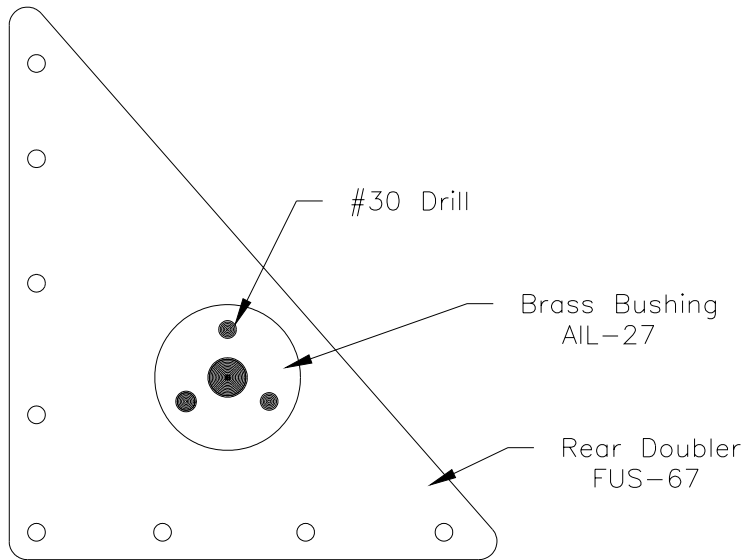

Figure 20.5.16
26) Center a brass bushing (AIL-27) in the 1/4" hole on the rear doubler. Figure 20.5.16.